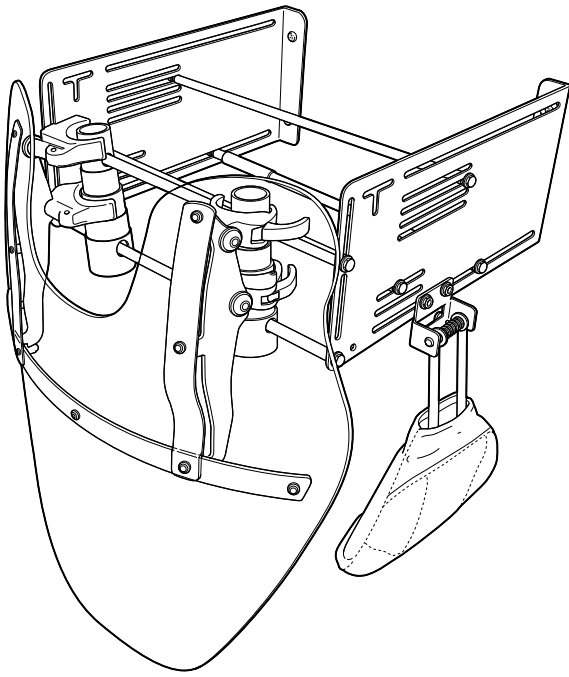
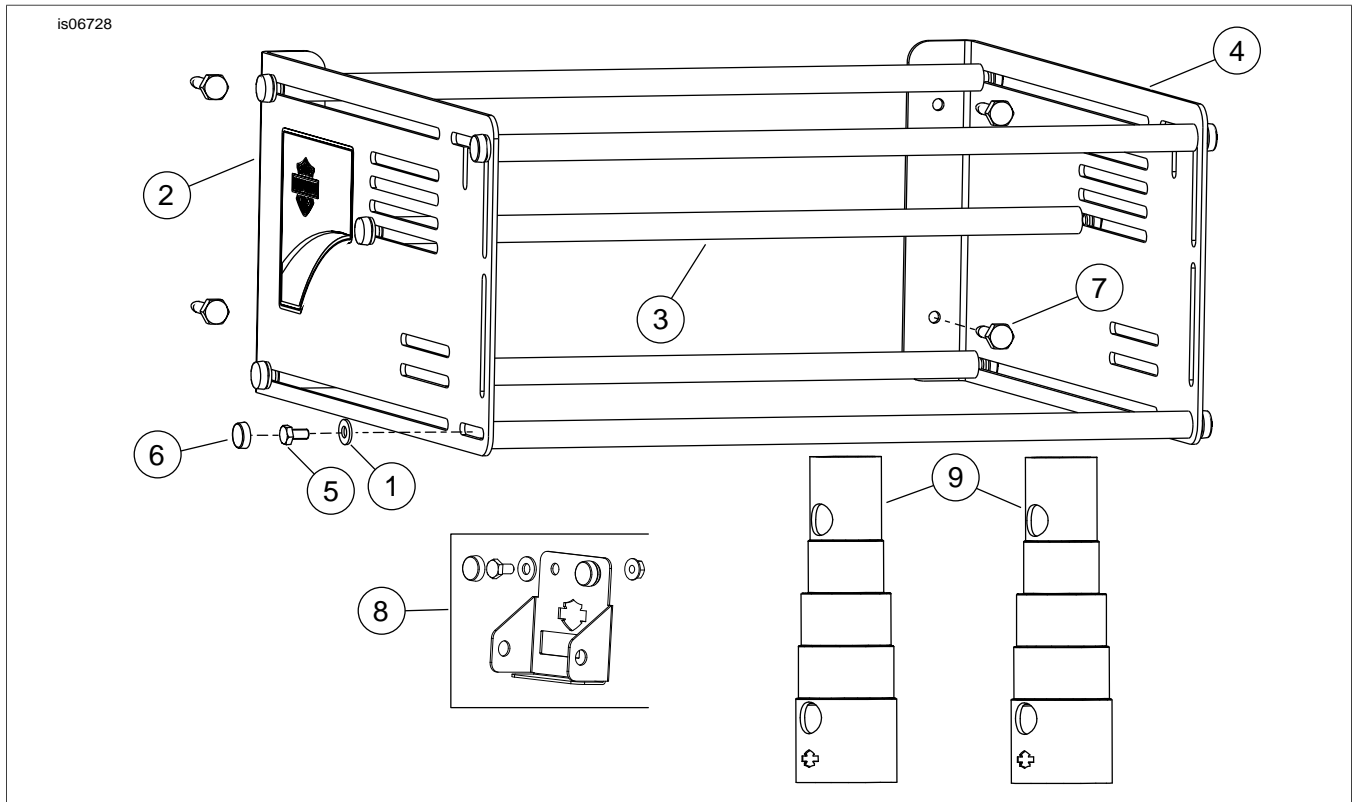

Figure 2. Wall Rack with Quick Release Windshield and Rider Backrest attached
Figure 5. Service Parts: Detach Depot Wall Rack
See Figure 5 and Table 1.
1. See Figure 5 and Table 1. Assemble the wall storage rack using rods at all four corners.
2. Use a level to draw a line across the studs where the rack will be mounted. Hold the rack up to the line to mark where the mounting holes will be. You may want to use a drill and a small drill bit to drill pilot holes for the lag bolts (7).
See Figure 5. Mount the adjustable rods to the sideplates using a washer (1) and screw (5) on each side. You may need to readjust the rods a few times in order to get the configuration correct for first time use. Once the rods are in their proper location, cover the screws with decorative end caps (6).
3. See Figure 2. Quick Release style windshields require separate purchase of a mount kit. The windshields attach to adjustable tubes oriented vertically and in parallel on the front rods.
6. See Figure 2 and Figure 5. Rider Backrests require separate purchase of a mount kit (8). The mount attaches to the bottom slot on the sideplates.